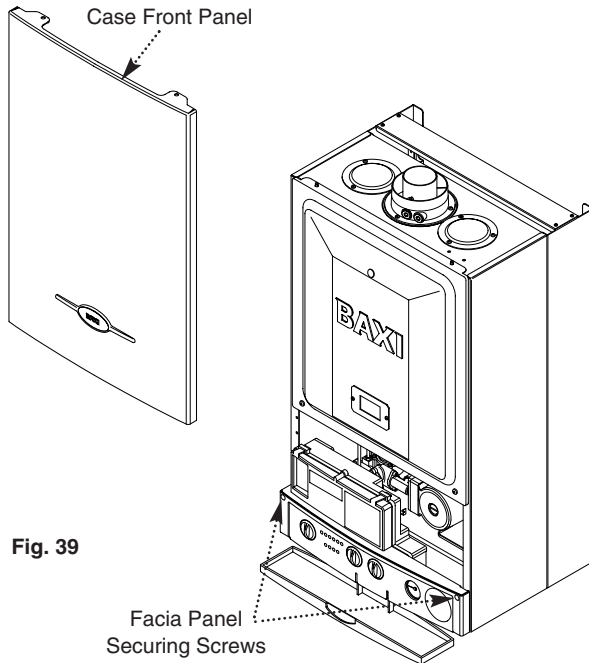

Fig. 39
5. Slacken the facia securing screws and lift the outercase panel so that its securing tabs are clear of the facia. Remove the panel (Fig. 39).